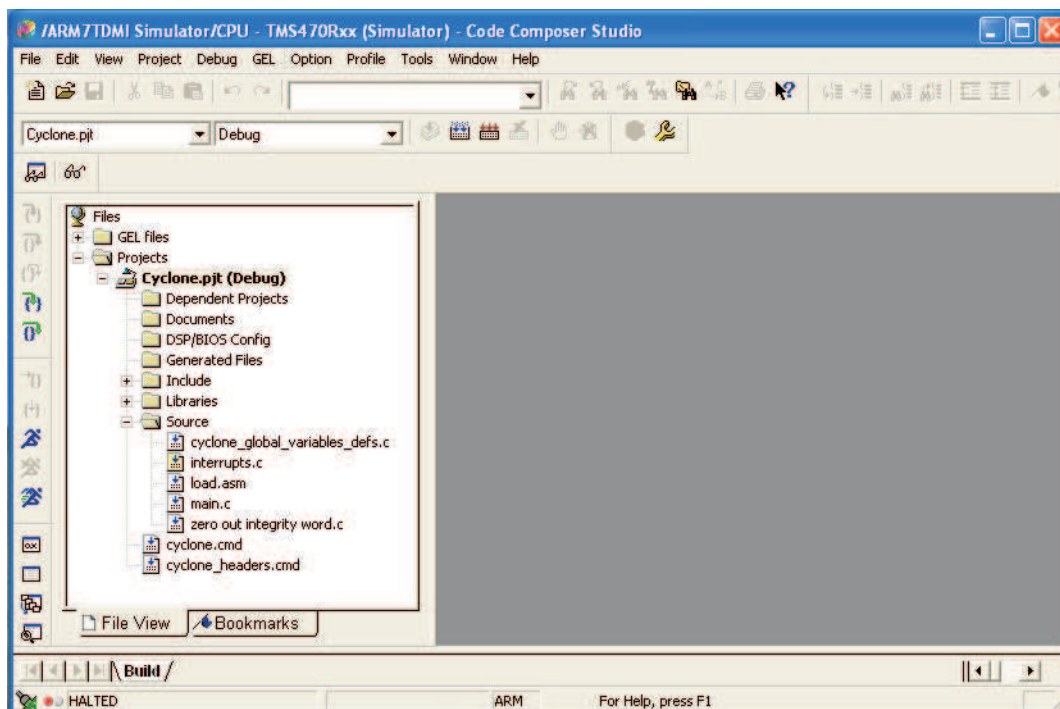

Figure 25. Open a Project File **Cyclone.pjt** (initial open)
2. Launch CCS and open the CCS project file **Cyclone.pjt** from the directory where **Training 02** was saved. The following window appears shown in Figure 25.